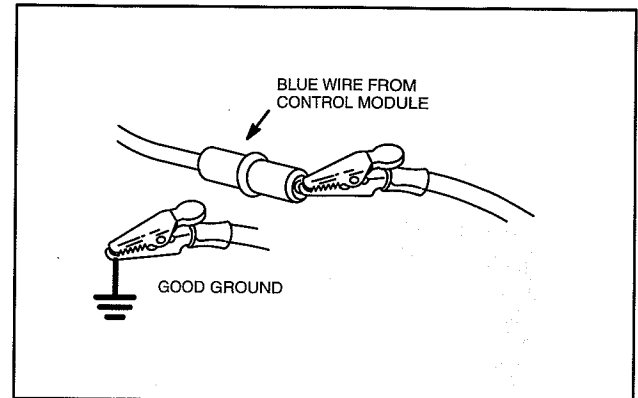

Fig. 33 – Dynamic Check
3. With engine running at top governed speed, attach one end of a jumper wire to BLUE wire from control module and attach other end to good ground, Fig. 33.